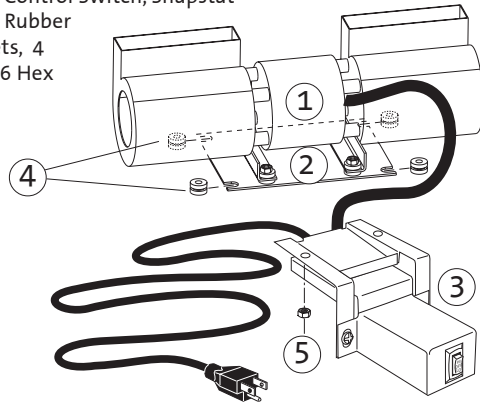

Figure 20. Blower Kit 154967 contents.
1. Insert a rubber grommet at each corner of the Base Plate as shown in Fig. 20.